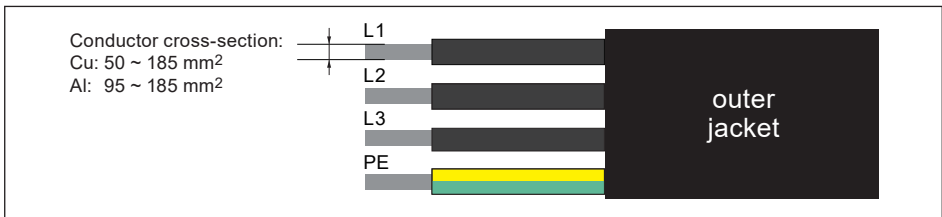

Figure 3-15: Size of AC conductors
- It is important to choose the proper size for AC cable. Refer to **Figure 3-15**.
Refer to **Figure 3-15** in **Section 3.4** for the procedure to prepare AC conductors for connection to the AC terminals.
Ensure the AC conductors used are sized to the correct ampacity per NEC or other local code. Refer to **Figure 3-15**.